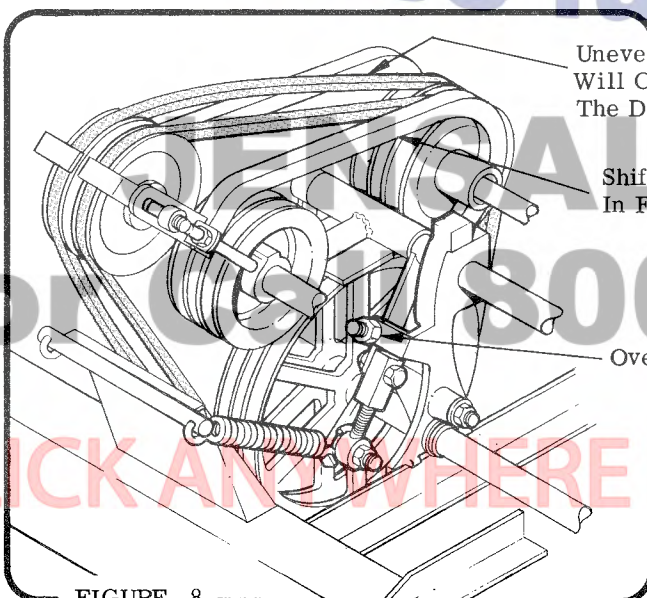

FIGURE 8
2. The over-center stop is adjusted so the steering lever will stay in forward position, but not be difficult to disengage. (See Figure 8.)
1. Keep tension of shifter belts equal. If the right belt is over tensioned, machine will drift to the right. (See Figure 8.)